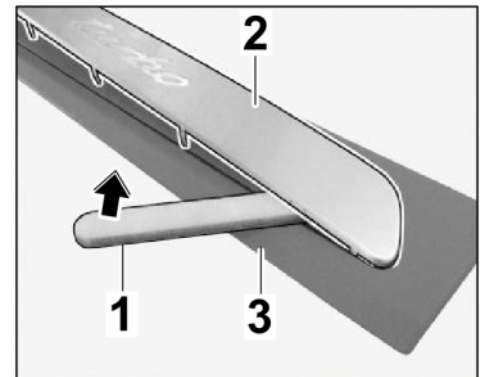

Figure 19
- 3.1.2 Carefully lever door-sill guard off the A-pillar trim panel (lower) using a POM wedge. ⇒ *Figure 19*